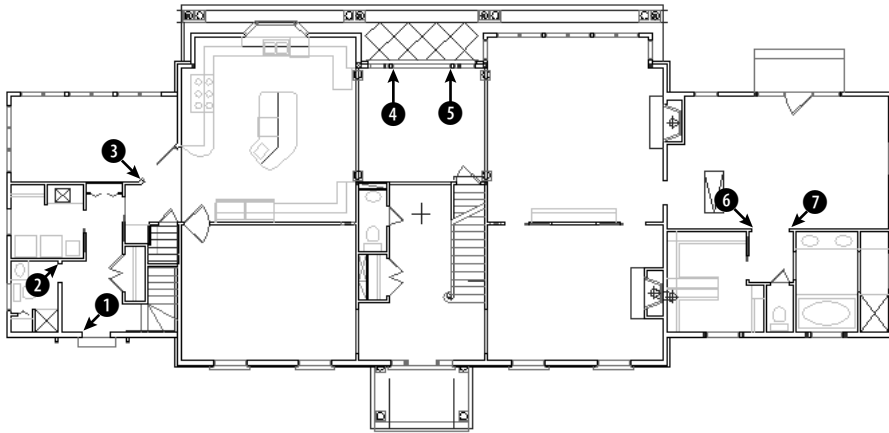

**Figure 18-10:** The floor plan of the house needs some doors and a new toilet.
2. Save the file as `ab18-03.dwg` in your **AutoCAD Bible** folder. This is the floor plan of the first floor of a house, as shown in Figure 18-10. Many of the doors and a toilet need to be inserted. OSNAP should be on. Set running object snaps for endpoint and midpoint. The current layer is Door.
Specify insertion point or [Basepoint/Scale/X/Y/Z/Rotate]: *Use the Endpoint object snap to pick 1 in Figure 18-10.*
6. Repeat the INSERT command. The Insert dialog box already shows the DOOR block. Click OK. Follow the prompts. You'll probably want to use Zoom Window to zoom into the area of 2 in Figure 18-10.
Specify insertion point or [Basepoint/Scale/X/Y/Z/Rotate]: *Pick 2 in Figure 18-10.*
7. If you zoomed in for the previous step, return to the previous view using Zoom Previous. Zoom in to the area around ③ in Figure 18-10. Choose Insert Block from the Draw toolbar. Click OK. Follow the prompts:
Specify insertion point or [Basepoint/Scale/X/Y/Z/Rotate]: *Pick ③ in Figure 18-10.*
8. Use Zoom Dynamic to zoom in to the area around ④ and ⑤ in Figure 18-10. Choose Insert Block from the Draw toolbar. Click OK. Follow the prompts:
Specify insertion point or [Basepoint/Scale/X/Y/Z/Rotate]: *Pick ④ in Figure 18-10.*
Specify insertion point or [Basepoint/Scale/X/Y/Z/Rotate]: *Pick ⑤ in Figure 18-10.*
10. Use Zoom Dynamic to zoom in on the area around ⑥ and ⑦ in Figure 18-10. Start the INSERT command and click OK. Follow the prompts:
Specify insertion point or [Basepoint/Scale/X/Y/Z/Rotate]: *Pick ⑥ in Figure 18-10.*
Specify insertion point or [Basepoint/Scale/X/Y/Z/Rotate]: *Pick ⑦ in Figure 18-10.*